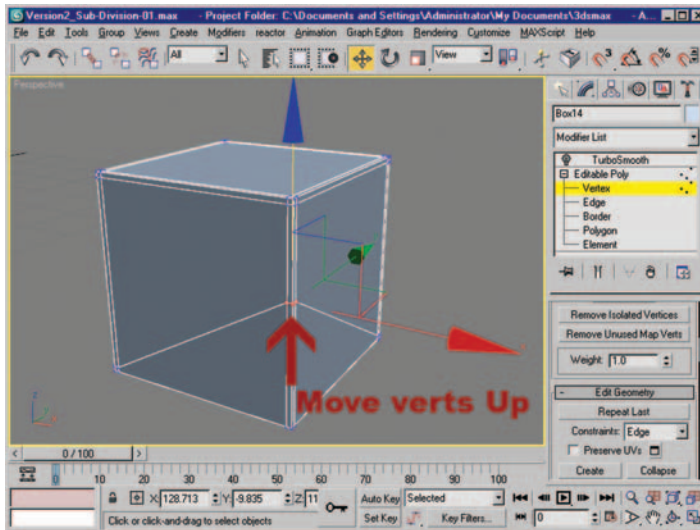

Figure 6.17 Verts moved up along the Z-axis.
3. Using the gizmo, move the vertices up along the Z-axis. The vertices will follow the edges because of the constraint. Move them about halfway up the length of the edges (Figure 6.17).